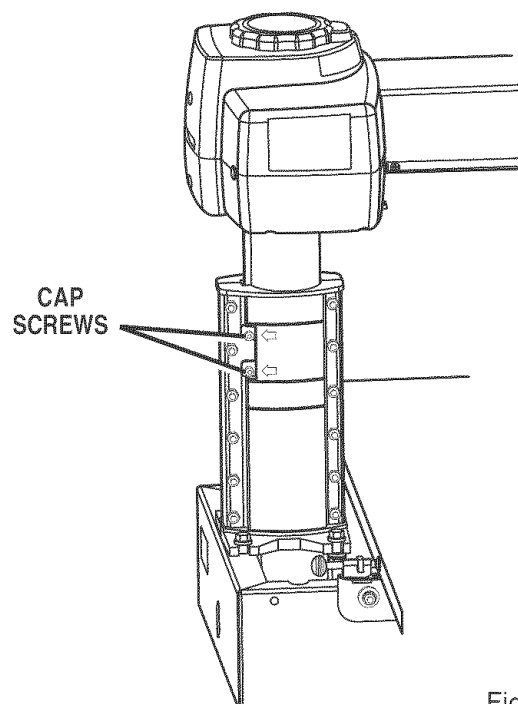

Fig. 20D
- **Rotation Adjustment:** Using a 3/16 in. hex key, slightly tighten the two cap screws at the back of the column support (left side) until no play shows between the radial arm and the column. The cap screws are indicated by arrows. See Figure 20D.